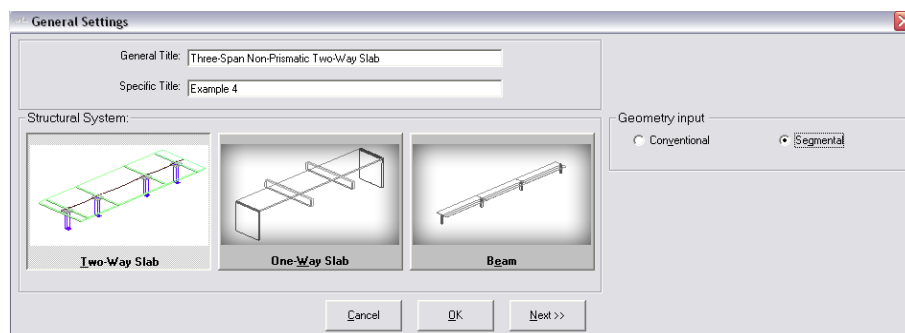

FIGURE 5.3-1
5.3.1.1 General Settings (Fig. 5.3-1)